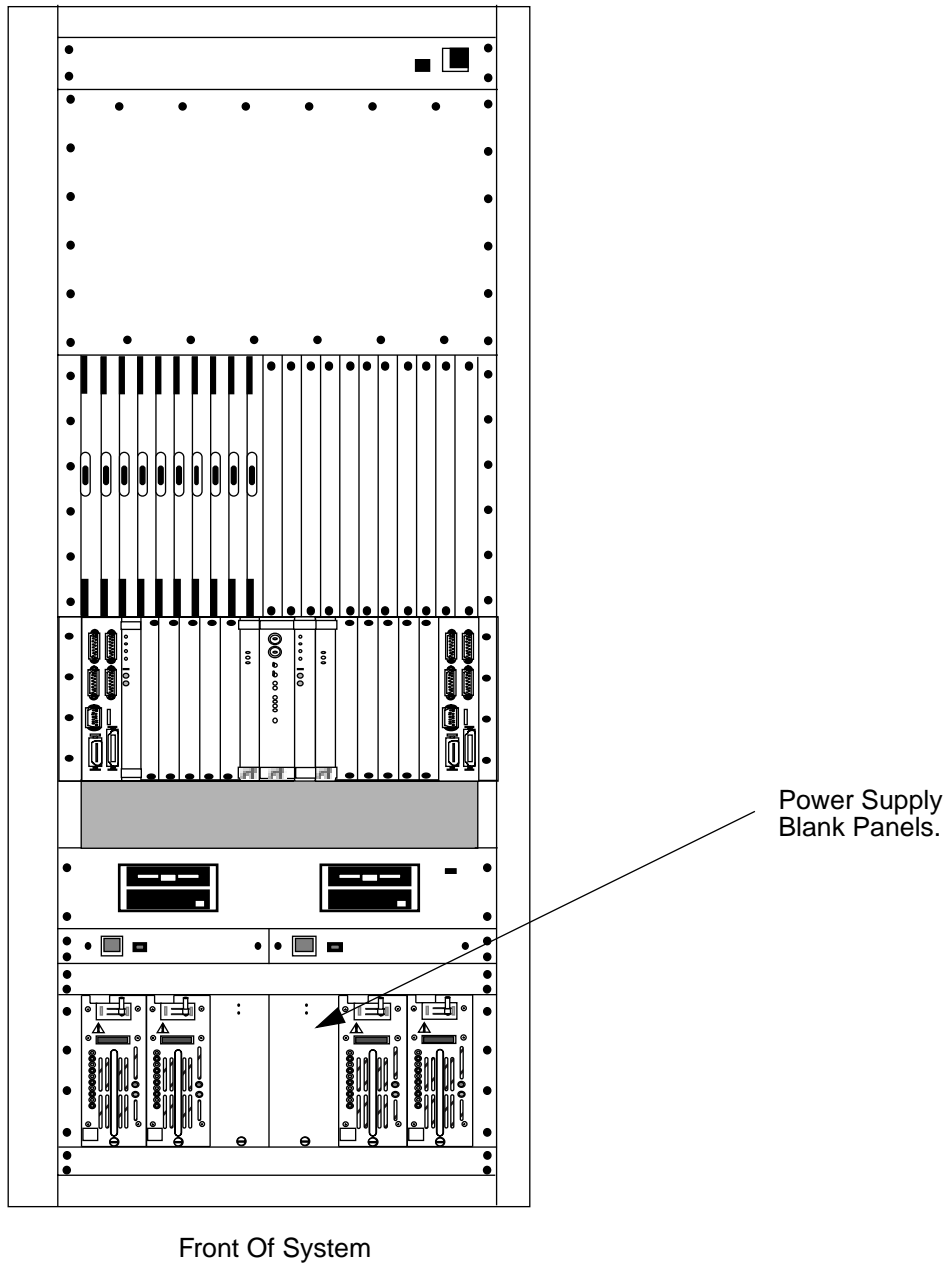

Figure 6: Removing Blank Power Supply Panels
4. Remove all blank power supply panels shown in Figure 6.
5. Remove all power supplies by disengaging the locking switch at the actuator basket as shown in Figure 6.